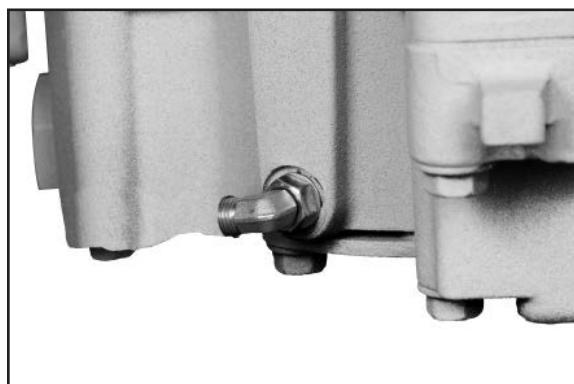

Figure 24 (Left side shown)
9. Remove the transmission high pressure port plug and securely install the 90-degree elbow fitting (379486) supplied with the PTO (Fig. 24). See page 18 for pressure port locations on Allison transmissions. Torque fitting to 10-12 lb-ft.